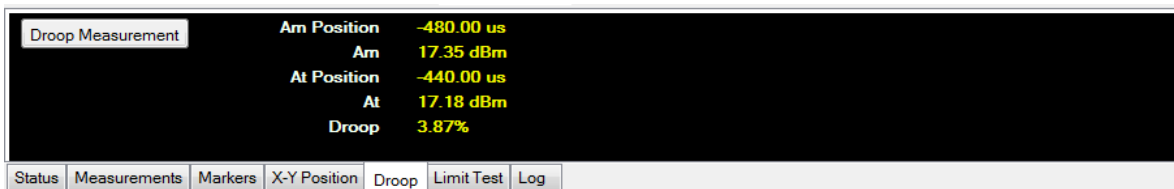

Figure 2-125 Droop measurement view on the multi-purpose pane
- 4 The droop measurement results will be displayed in the Droop Measurement view as shown in Figure 2-125.